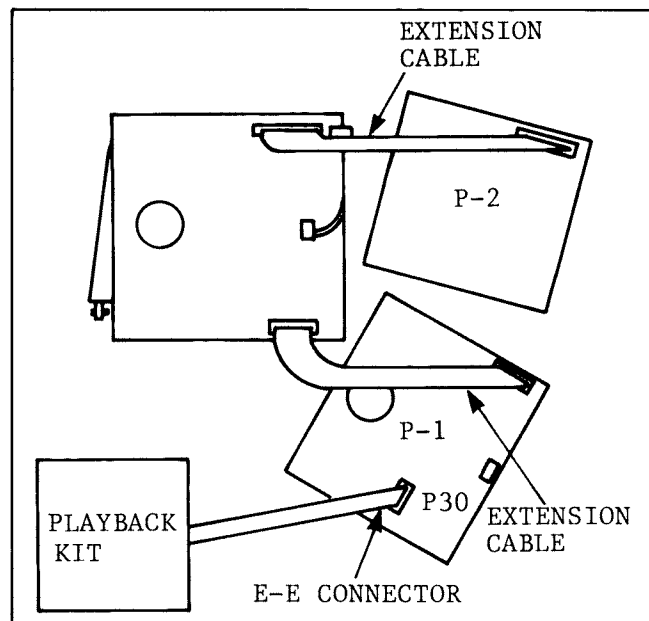

Fig. 7. E-E. ADJUSTMENT CONDITION
2. Connect the E-E input of the PLAYBACK KIT to the E-E output (P30) on VIDEO PROCESSOR P.C.B. (P-1). Connect signal generator to Y SG IN at PLAYBACK KIT. Connect scope to the Y OUT of the PLAYBACK KIT, as shown in Fig. 7.